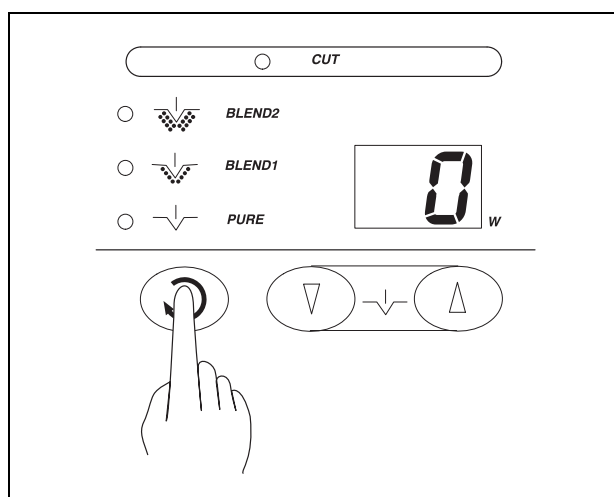

Figure 4.8
1. Confirm that each time the cut mode selector is pressed, the cut mode indicators are changed, and the corresponding indicators the "PURE", "BLEND1" or "BLEND2" cut mode light (see Figure 4.8).